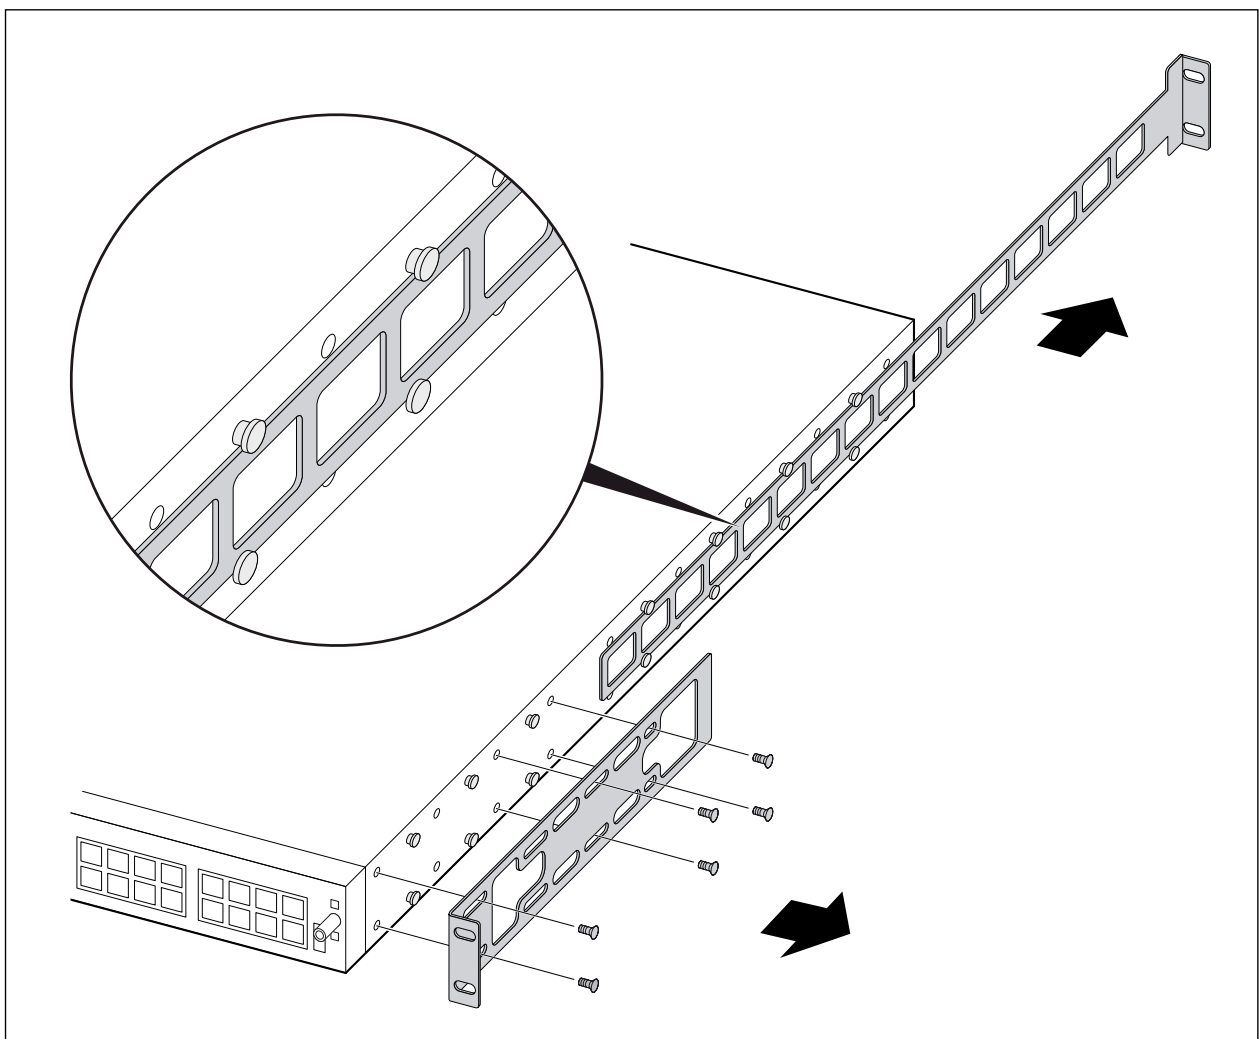

Figure 1 Removing the Mounting Brackets
13. When the faulty switch is removed from the cabinet, remove the mounting brackets from both sides of the switch. Figure 1 shows the removal from one side.